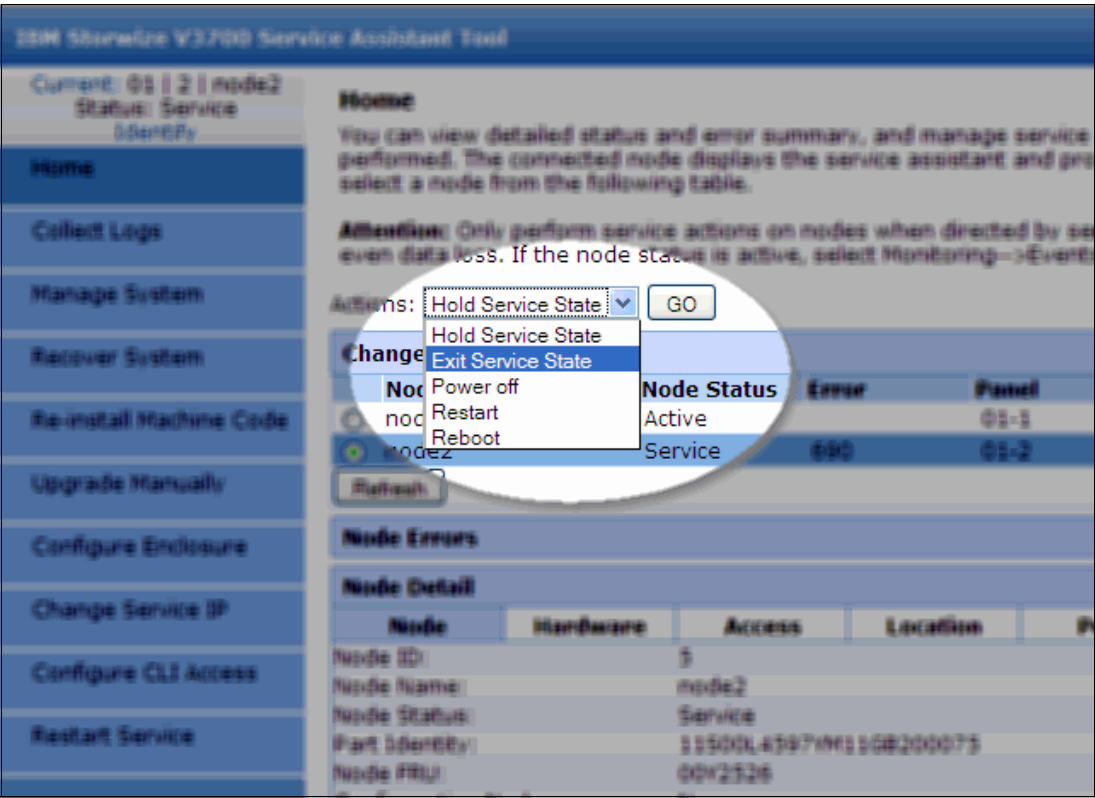

Figure 9-41 Exit service state
10.To exit the service state, browse to the home panel of the Service Assistant and open the Action menu. Select **Exit Service State**, as shown in Figure 9-41.